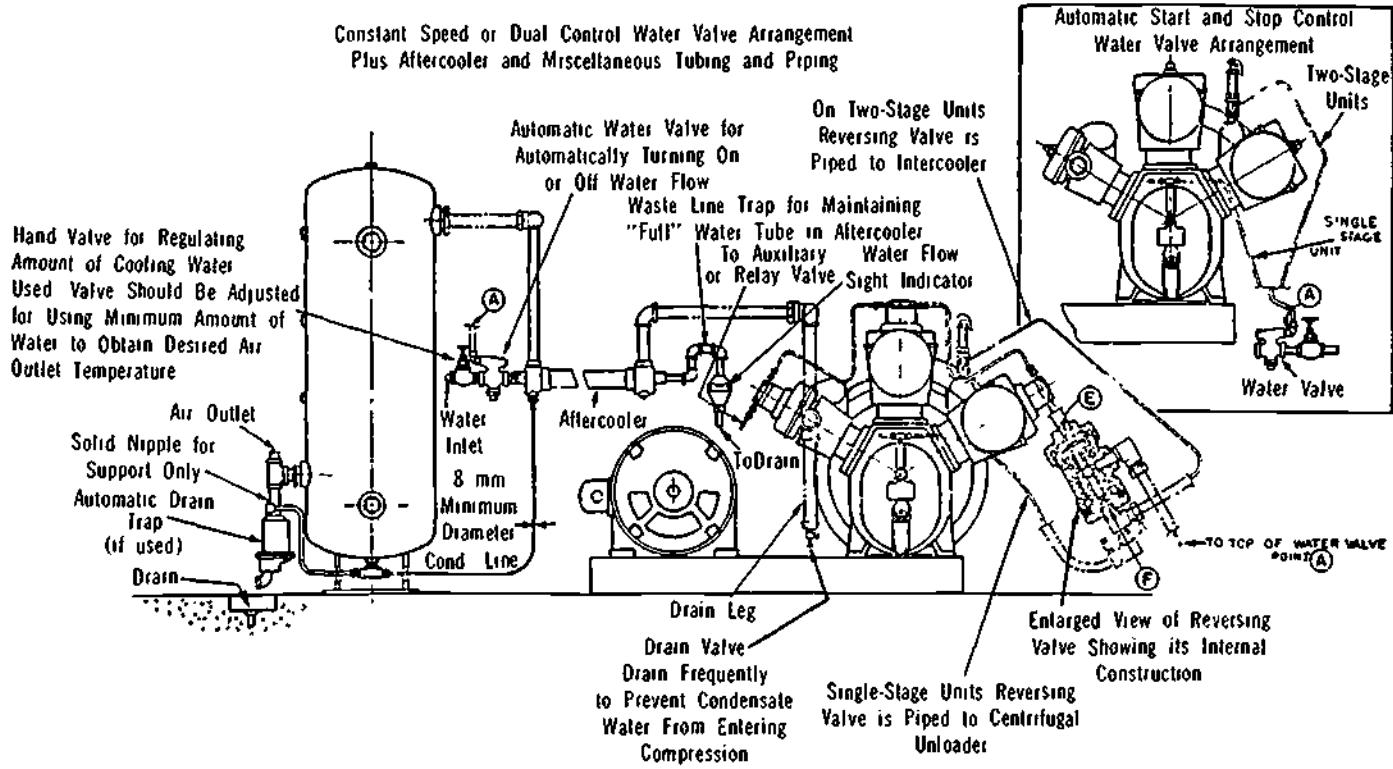

Figure 32-8. Typical Detailed Piping Arrangement for Base-Mounted Units
14. Accessory Piping. Typical accessory-piping arrangements for both receiver-mounted and base-mounted units are shown in Figures 32-8 and 32-9. These diagrams include a water-cooled aftercooler, an automatic water shut-off valve, and an automatic condensate drain trap. These diagrams are representative and show only relative positions. Actual positioning would be made to suit the installation.
Mount the aftercooler as close to the air receiver as possible, using pipe of the same diameter as that for the compressor outlet if the total length is less than 3 m. If it is longer, use the next-larger-diameter pipe. The aftercooler must be rigidly supported from the ceiling or wall. Discharge piping to the aftercooler should preferably load (slope) down, but if overhead piping is used a drain leg to trap condensed moisture should be mounted next to the compressor, as illustrated in Figure 32-8. An automatic drain valve can be fitted, or draining of condensate may be done manually.